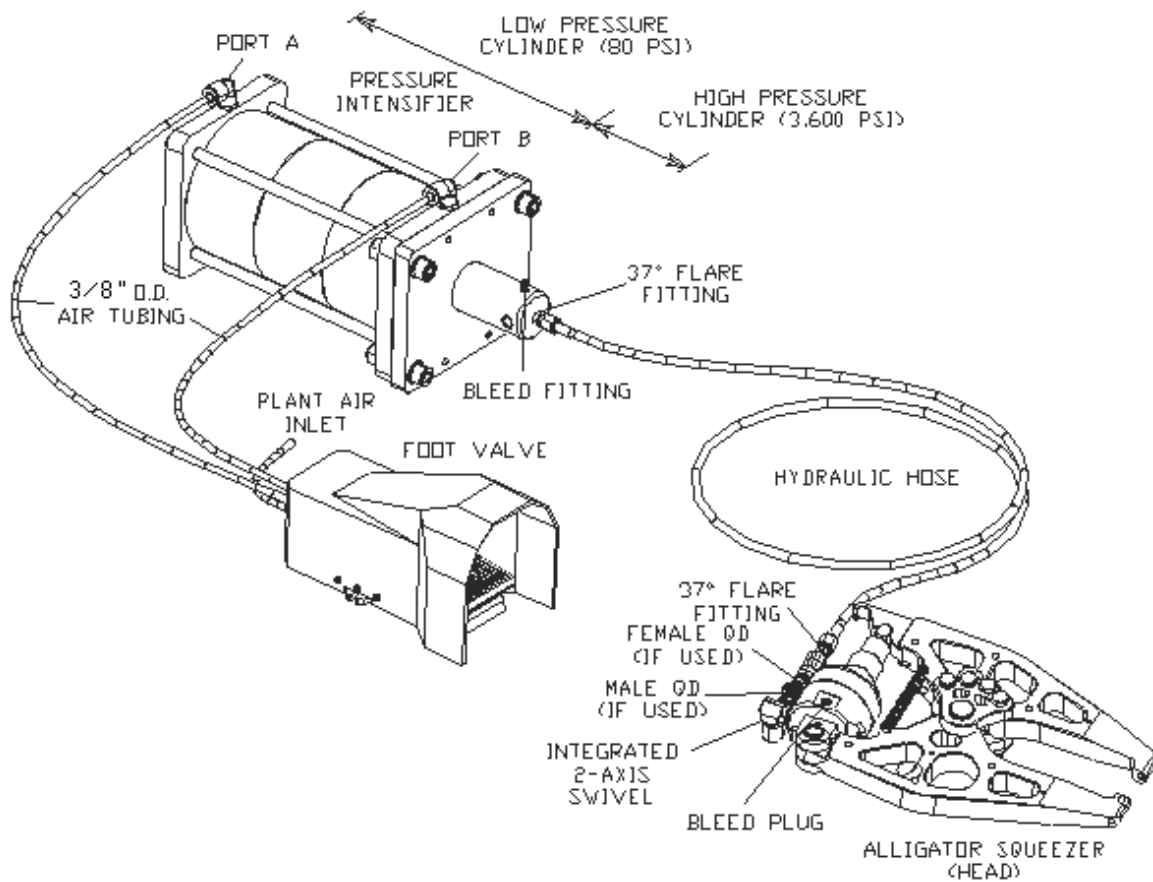

FIGURE 6 – SYSTEM SETUP
- 4.1 Refer to Figure 6, SYSTEM SETUP.